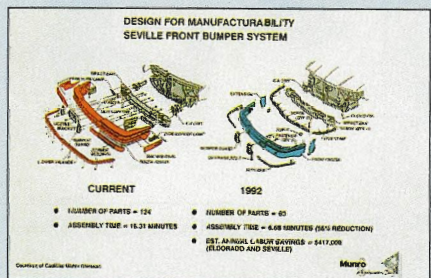

Figure 4: A redesigned bumper dropped assembly time by 56% and reduced the number of parts by 50%.
• **Bumper system** — This team's ideas, shown in Figure 4, dropped assembly time by 56%, the number of parts by 50% and the piece cost by \$50. The use of net build techniques (no shims), a single bolt attachment to the energy-absorbing shocks and extensive use of snap fits made this the easiest bumper build in General Motors. This system also has several pending patents.